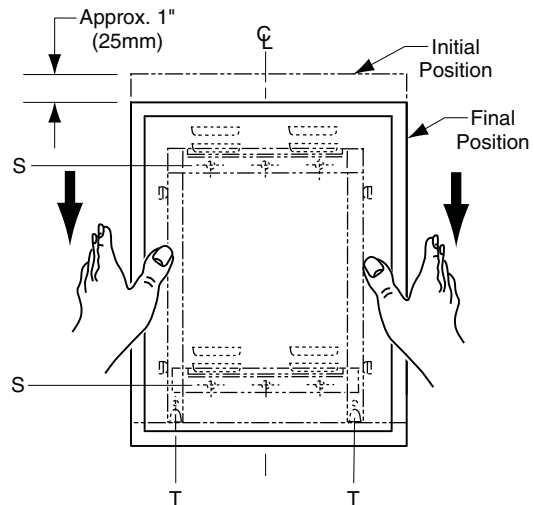

Figure: 4
**Screw locking Design** — Lock mirror to wall hanger by tightening Phillips-head locking screws that are concealed in the bottom of frame at points indicated by a *T* (see figure 4). Mirror may be unlocked from wall hanger by loosening locking screws and lifting mirror off of concealed wall hanger.